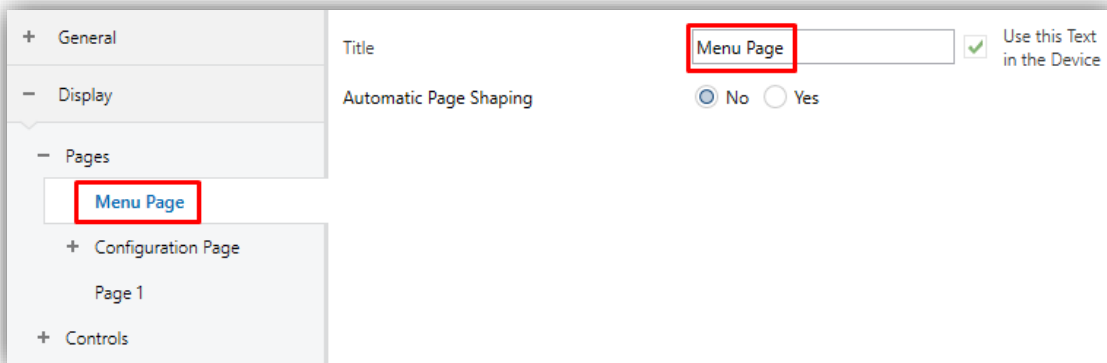

Figure 36. Menu.
- **Title:** text field that identifies the menu pages. In addition, this field allows changing the name of the tab in ETS left menu, as shown in the Figure 36.